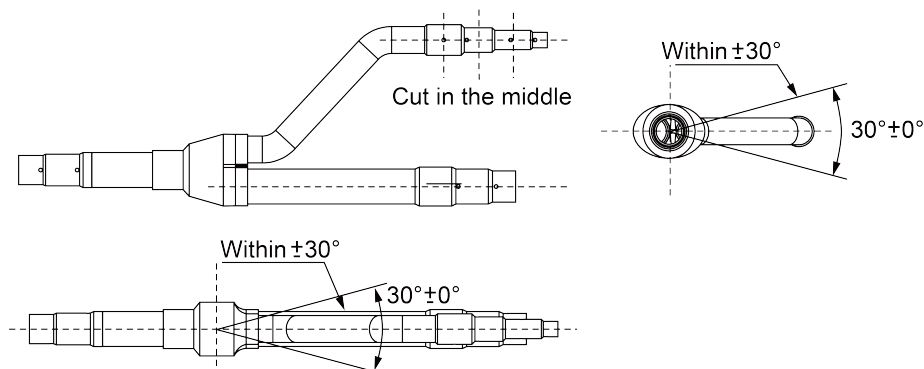

Fig. 17
(1) Y-type Branch.
(2) Y-type branch has several pipe sections with different dimension, which facilitates to match with various copper pipes. Use pipe cutter to cut in the middle of the pipe section that is of proper dimension and remove burrs as well. See Fig. 17.
(3) Y-type branch must be installed vertically or horizontally.